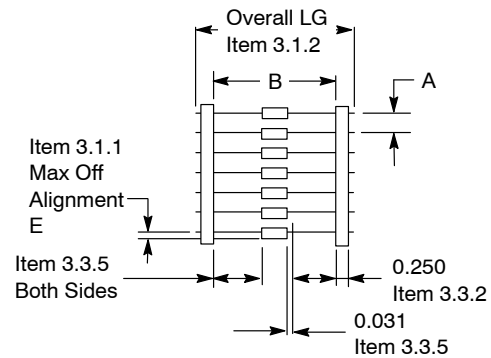

Figure 54. Component Spacing
3.1.1 – Component leads shall not be bent beyond dimension E from their normal position. See Figure 54.
3.1.2 – The "C" dimension shall be governed by the overall length of the reel packaged component. The distance between flanges shall be 0.059 inch to 0.315 inch greater than the overall component length. See Figures 54 and 55.
3.3.2 – Component's leads shall be positioned perpendicularly between pairs of 0.250 inch tape. See Figure 54.